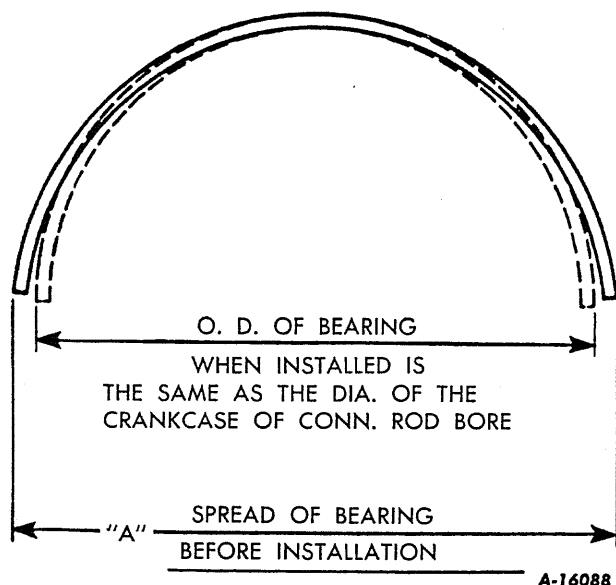

Fig. 6
Main and connecting-rod bearings are designed with the "spread" (width across the open ends) slightly greater than the diameter of the crankcase bore or connecting-rod bore into which they are assembled (Figure 6). For example, the width across the open ends of the GRD engine connecting-rod bearing not in place is approximately .025 inch more than when the bearing is in position in the rod. This condition causes the bearing to fit snugly in the rod bore and the bearing must be "snapped" or lightly forced into its seat.
- (1) **Excessive spread.** If measurement of spread (Figure 6) indicates that distance "A" is excessive (see chart for specifications), place bearing on a wood block (Figure 7) and strike the side **lightly** and **squarely** with a soft mallet. Recheck measurement and, if necessary, continue until correct width (measurement "A" in chart) is obtained.